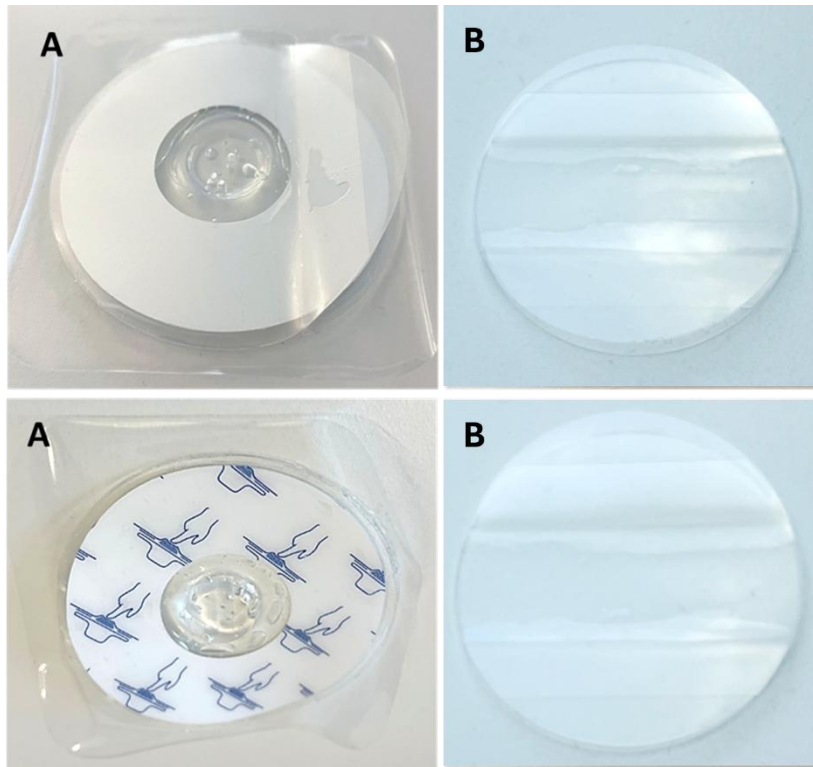

Figure 6. DXT Tape Kit. A: DXT Anterior Tape, B: Posterior Tape.
The DXT Tape Kit is specially designed to fasten the DXT Sensor Kit to the patient and consists of the DXT Anterior Tape (A) and the DXT Posterior Tape (B) (Figure 6).